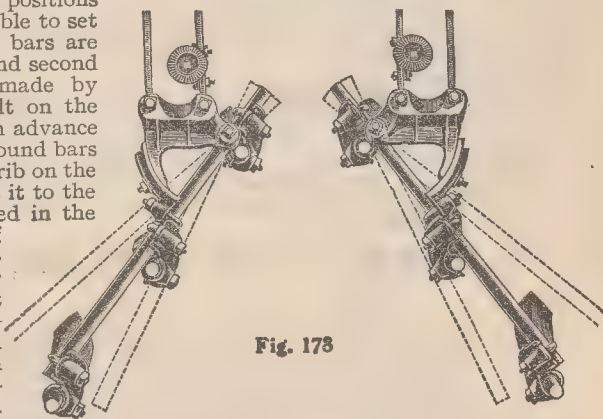

Fig. 178
**The Gangs.**—In Fig. 178 we show clearly the construction of the pivoted gang bars. Embodied in the gangs one will recognize the valuable and patented features of the gang bar construction of our Nos. 70, 80 and 55 riding cultivators.